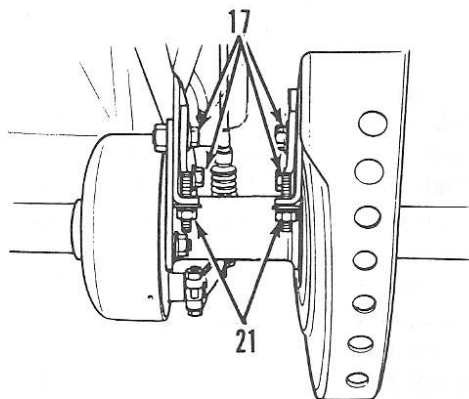

Fig. S1-17—To adjust final drive chain, loosen bearing housing retaining cap screws (17) and rotate adjusting nuts (21).
ADJUSTMENT. The drive chain should be inspected and adjusted every month. Improper maintenance and neglect can cause early failure of both drive chain and sprockets. Drive chain free play should be 15-25 mm (0.5-1.0 in.) measured midway between sprockets. To adjust, loosen rear axle bearing housing retaining cap screws (17—Fig. S1-17) and rotate chain adjusting nuts (17) in equal increments as required.